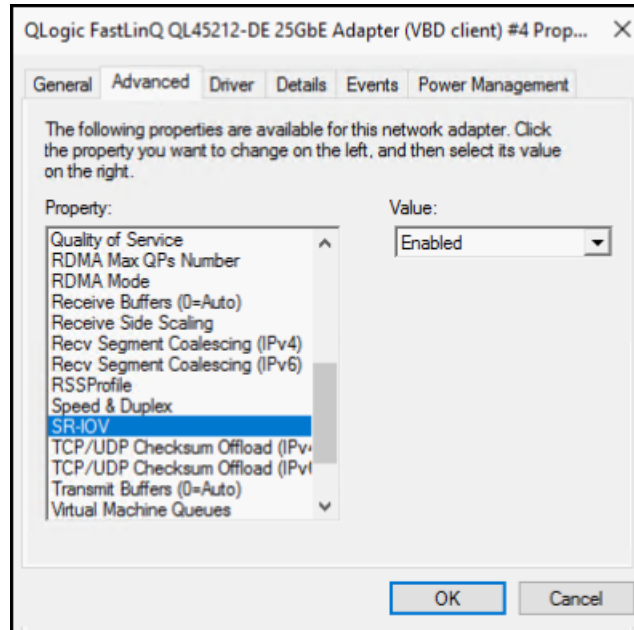

Figure 8-3. Adapter Properties, Advanced: Enabling SR-IOV
- c. On the Advanced properties page (Figure 8-3) under **Property**, select **SR-IOV**, and then set the value to **Enabled**.